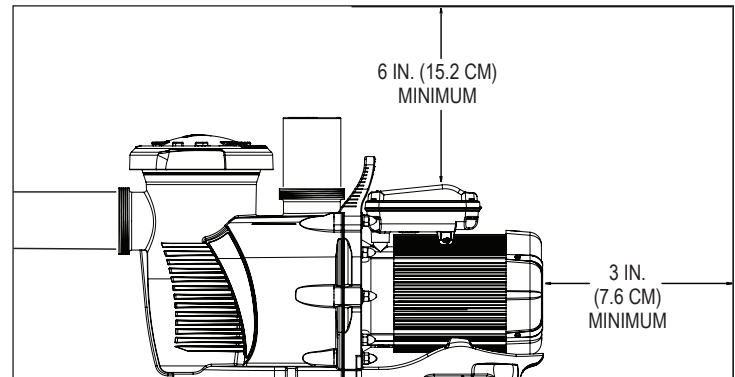

Figure 1: Pump Rear and Vertical Clearance
6. Install the pump with a rear clearance of at least 3 inches (7.6 cm) so that the motor can be removed easily for maintenance and repair. **See Figure 1.**